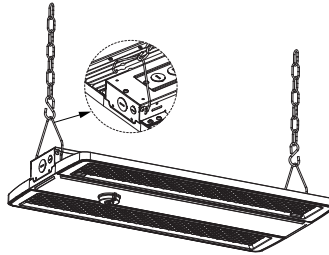

Figure 2
- Step 1. Hook up the chain; (Figure 2)
- Step 2. Connect the chain with fixture; (Figure 2)
- Step 3. Secure the chain on the rail, adjust the chain length as per need; (Figure 2)